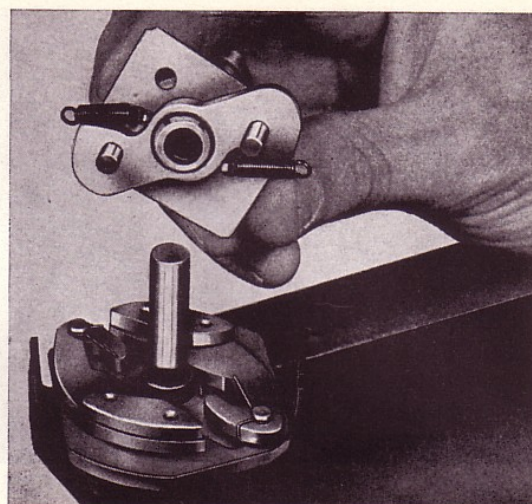

Fig. 76. Fitting the breaker camshaft
2. Fit the breaker camshaft and place on the springs, see Fig. 76.